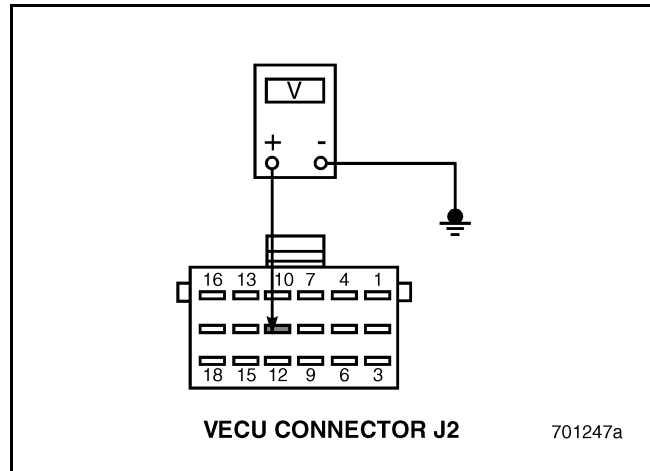

Figure 447
5. Measure the voltage between VECU connector J2 pin 11 and a good ground (see Figure 447).